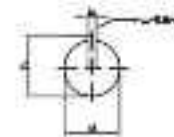

Figure 1 Diameter of the mounting hole and dimension of keyway
6. Installation conditions: The diameter of the mounting hole and the size of the keyway of the mounting plate of the signal light shall conform to the provisions of Table 1 and Figure 1.